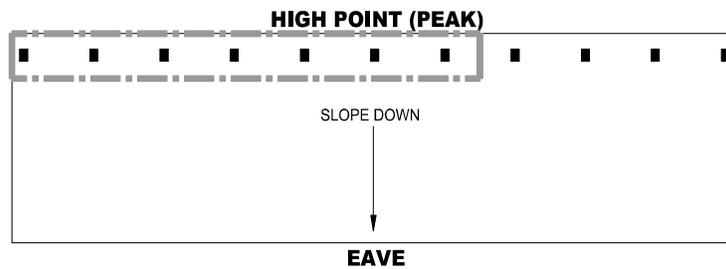

FIGURE 23A
- Calculate the most hydraulically demanding 7 contiguous DS sprinklers. See Figure 23A.